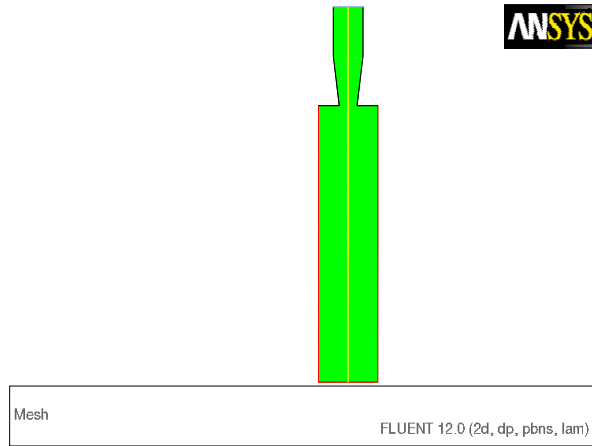

Figure 18.4: Mesh Display of the Nozzle Mirrored and Upright
- i. Drag the indicator of the dial with the left mouse button in the clockwise direction until the upright view is displayed (Figure 18.4).